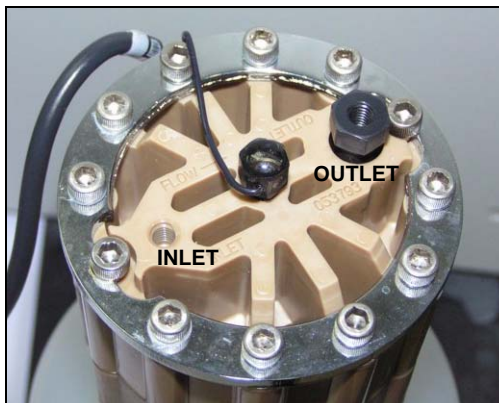

Figure 5-39. EluGen Cartridge Inlet and Outlet Ports
11. Orient the EluGen cartridge with the fittings facing up and remove the plugs from the EluGen cartridge **INLET** and **OUTLET** ports (see Figure 5-39).